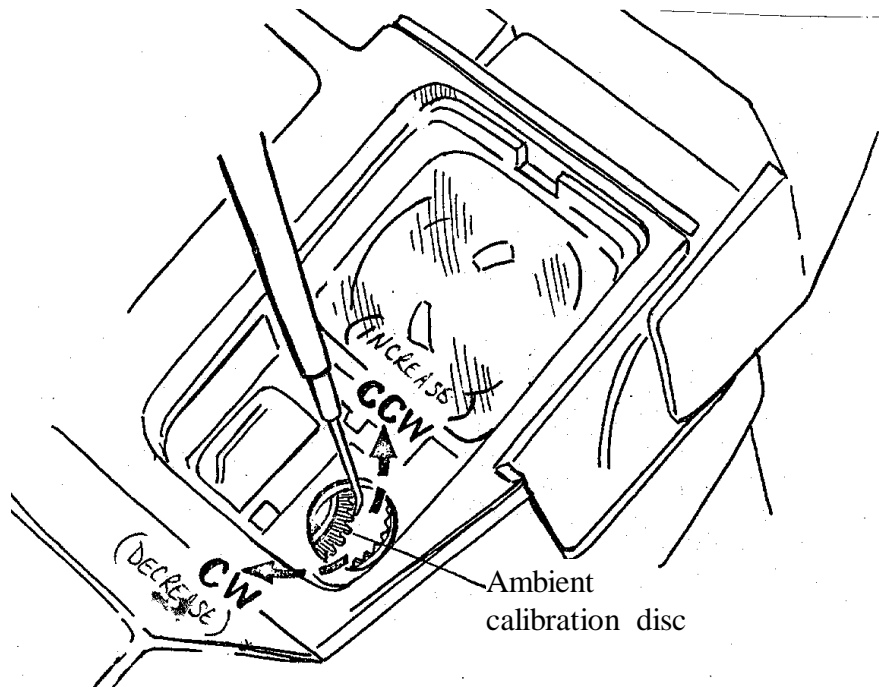

Fig. 7 Adjusting the Ambient Calibration Disc
- b. Using a dental pick, narrow-bladed screwdriver or other suitable tool, adjust the ambient calibration disc (see Fig. 7). Move the ambient calibration disc clockwise (CW) to decrease the reading or counterclockwise (CCW) to increase the reading (see Fig. 7).